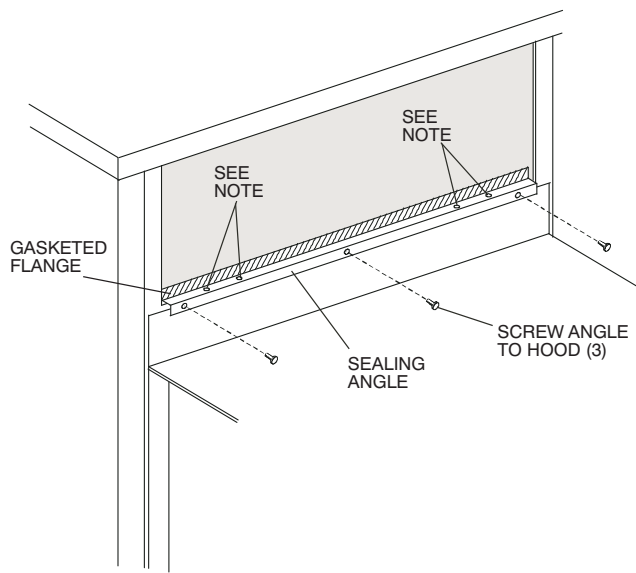

Fig. 14 - Install Sealing Angle
2. Attach the sealing angle to the top of the power exhaust hood using the screws provided. Refer to Fig. 14. Note that the gasketing flange will be facing out.
6. Remove the hinged door and drill four (4) 1¹/₆₄ in. holes where the marks are.